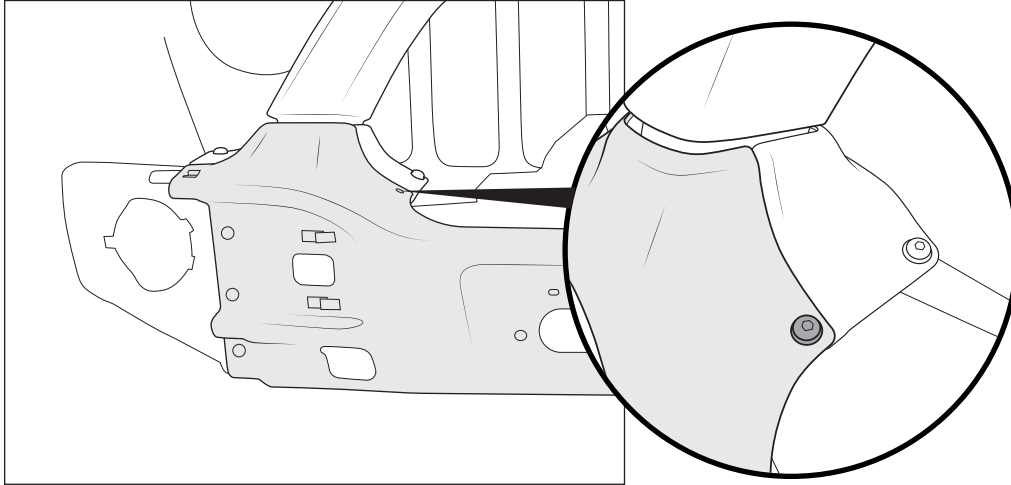

Figure 22
2. Install center section onto front of vehicle. It should pass over the offset front portion of the tube closeout stampings. Center can be retained by passing black M8x25mm button head bolts with washers through the top inboard holes and through the tube closeout stamping. Loosely install black flange nuts from the back side (fig. 22). If using AEV winch plate, remove then reinstall black M10x25 bolts and washers from winch kit through the bottom of the center section and into the weld nuts in the winch plate (see fig. 22). Remove the outer bolts holding the tube closeouts in place so that corners can be installed.